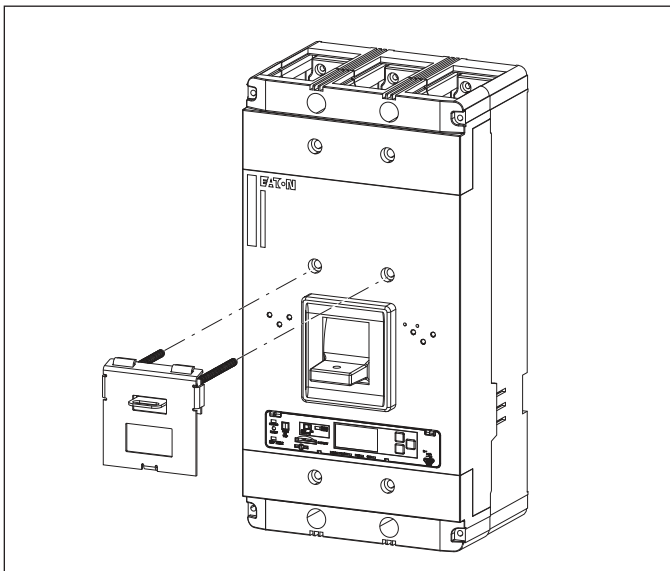

Figure 2 Padlockable Handle Lock Installation.
The padlockable handle lock hasp (Fig. 2) is used to externally lock the circuit breaker handle in either the ON or OFF position or in the OFF only position depending upon the style being used. The on-off style hasp has a slot for the circuit breaker handle. Safety is ensured since trip-free operation lets the circuit breaker trip when the handle is locked in the ON position. The hasp is mounted on the circuit breaker cover above the handle. The hasp take up to three padlock shackles, each with a maximum diameter of 5/16 inch (7.94 mm).
**Note:** When the padlockable handle lock hasp is mounted on the circuit breaker cover, a warning label is covered. A duplicate label is supplied with the mounting hardware. After the hasp lock has been mounted, the warning label must be placed on the breaker cover. (See Fig. 2).
- 2-1. Remove and discard the two cover mounting screws above the handle. (See Fig. 2)
- 2-2. Position hasp base with hinges toward line end of breaker and align holes. (See Fig. 2)
- 2-3. Position long screws with flat washers and lock through hasp base and into cover mounting holes and start threads, but do not tighten. (See Fig. 2)
- 2-4. Position hasp latch to hasp base. Hasp plate hinge slots must be under base plate hinges (See Fig. 2)
**Note: Lockplate Retaining Feature - when the lockplate is hinged away from the mounting plate it can be retained in that position by sliding the lockplate to the right. (See Fig. 2)**